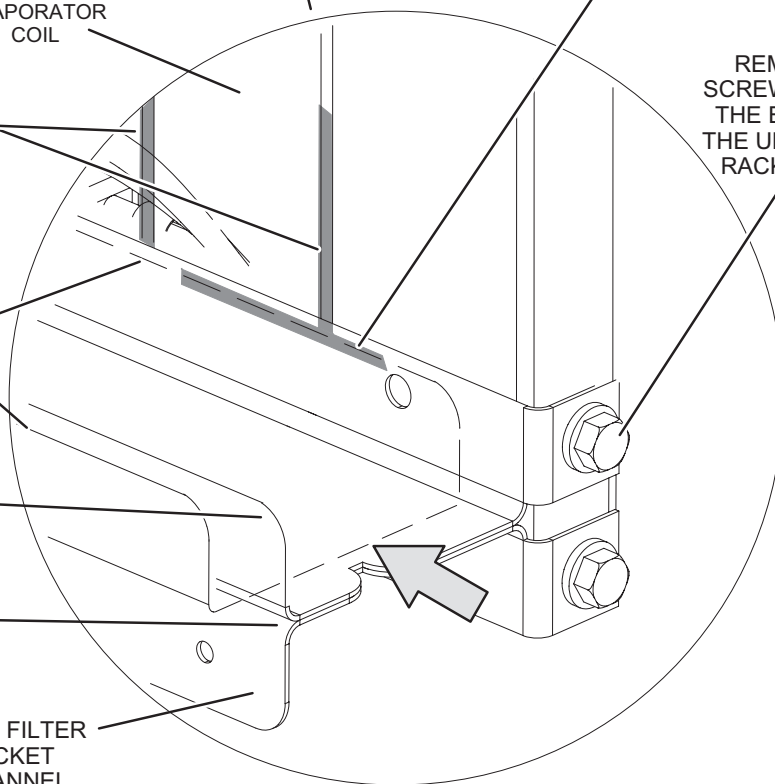

FIGURE 4
- 2 - Remove the screw securing the bottom of the upper filter bracket. See detail in FIGURE 4.
- 5 - Install provided edge protectors. See FIGURE 4 for location.
- 6 - Remove the screw securing the top of the upper filter bracket. See detail in FIGURE 4.